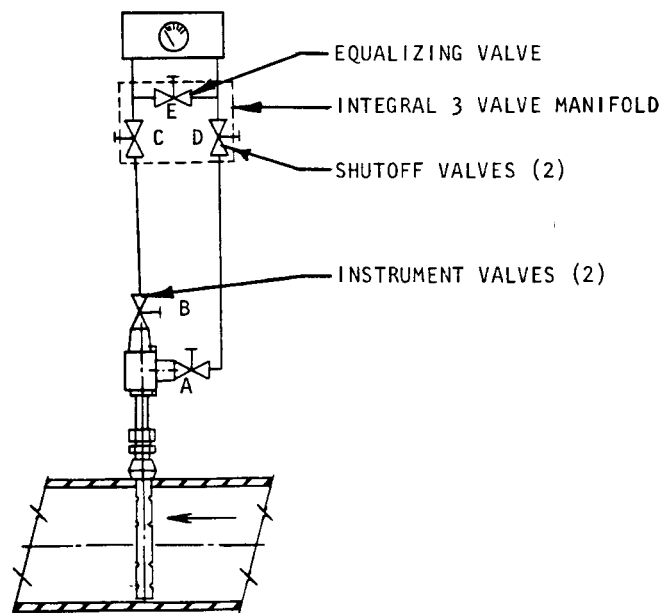

FIGURE 5.1 TYPICAL VALVE ARRANGEMENT
- 5.1 Once the Accutube is installed in the proper location and the instrument lines are installed to the indicator, the unit is prepared for operation. Operation of the Accutube involves setting valves in the proper sequence. Refer to Figure 5.1 in the following steps.